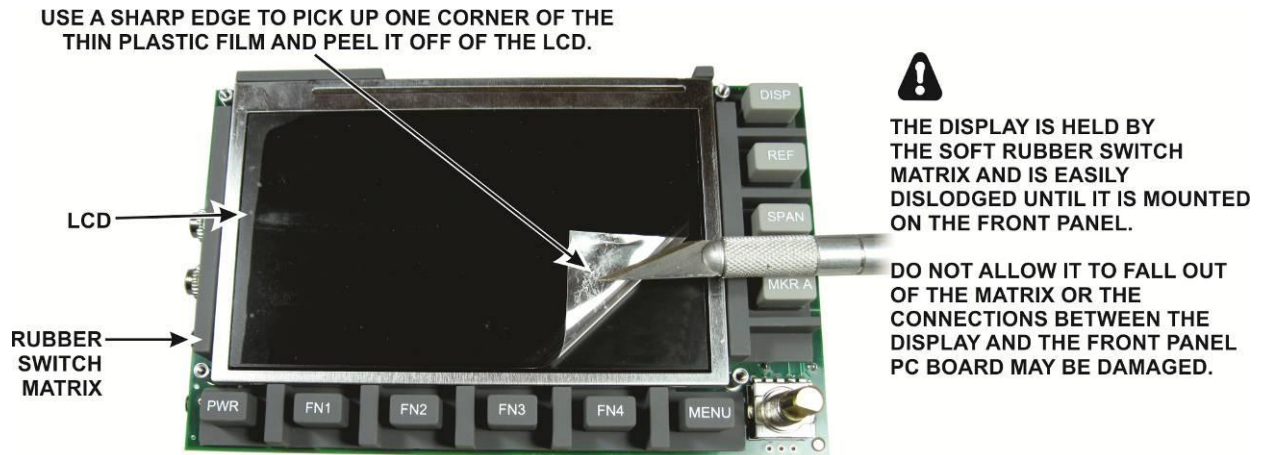

Figure 31. Removing the Plastic Film from the LCD.
- Replace the LCD in the rubber matrix and lay the front panel board face up on your work table. Remove the thin plastic film over the LCD using a sharp edge to pick up one corner as shown in Figure 31 and then peel the plastic off of the LCD.